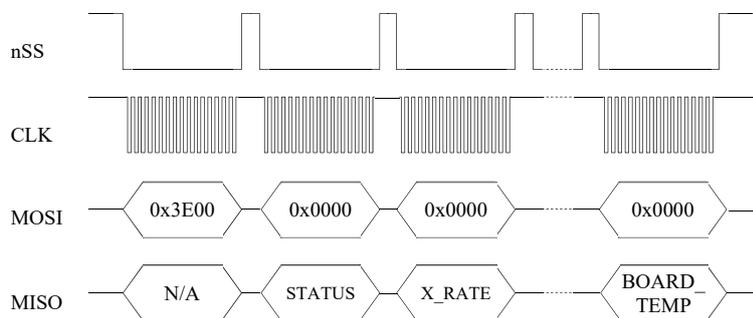
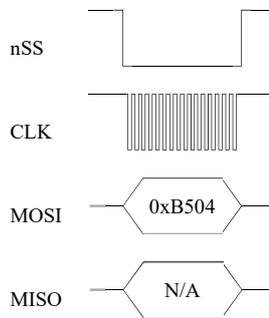

Figure 8 Multiple Register Read via Burst-Mode
Figure 10 Single Register Write to Initiate Self-Test
Burst-mode begins when the master requests a read from a burst-mode data-packet (i.e. 0x3E). Eight additional SPI cycles complete the read (one for each word in the standard data-packet). Figure 8 illustrates the burst-mode sequence. Note: if the incorrect number of SPI cycles follow the burst-mode command, the SPI transfer will either complete early or remain in burst-mode; subsequent reads/writes will be out of sync with the SPI transfer cycle of the unit.
Extended Burst-mode begins when the master requests a read of burst-mode extended data-packet by sending the 16-bit word 0x3F00. Ten additional 16-bit SPI cycles complete the read (one for each word in the extended data-packet). Figure 8 illustrates the burst-mode sequence. Note: if the incorrect number of SPI cycles follow the burst-mode command, the SPI transfer will either complete early or remain in burst-mode; subsequent reads/writes will be out of sync with the SPI transfer cycle of the DMU381ZA; the 1 kHz sync signal should be accurate to $\pm 0.1\%$, or it will not be recognized as a valid synchronization signal. Note also in Figure 1 that the nSS signal can be held low during the entire burst-read sequence, or it can be de-activated between each 16-bit word as shown in Figure 10.
- Toggle nSS in between each of the 16-bit words (as shown in Figure 8).
Figure 10 illustrates the sensor self-test command sent over SPI.